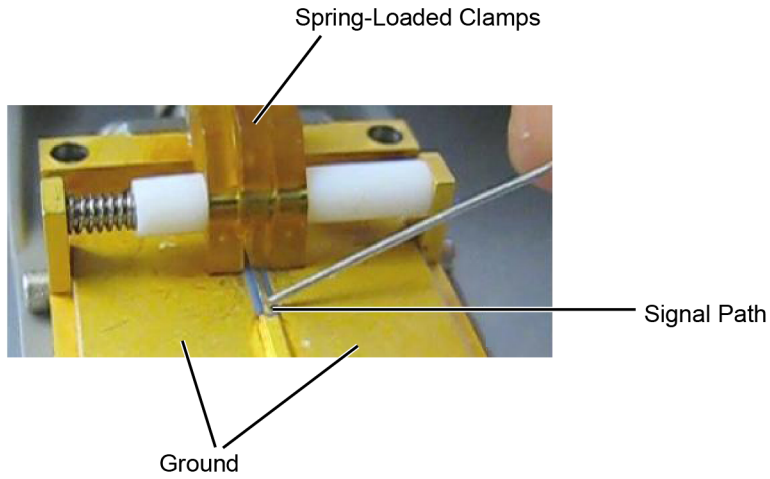

Figure 82 Closeup of Fixture's Signal Path, Ground, and Clamps
- h While pressing down on the N5443A fixture's spring-loaded clamps, insert the probe wires beneath the clamps. The N5443A's clamps, ground, and signal path are identified in Figure 82.